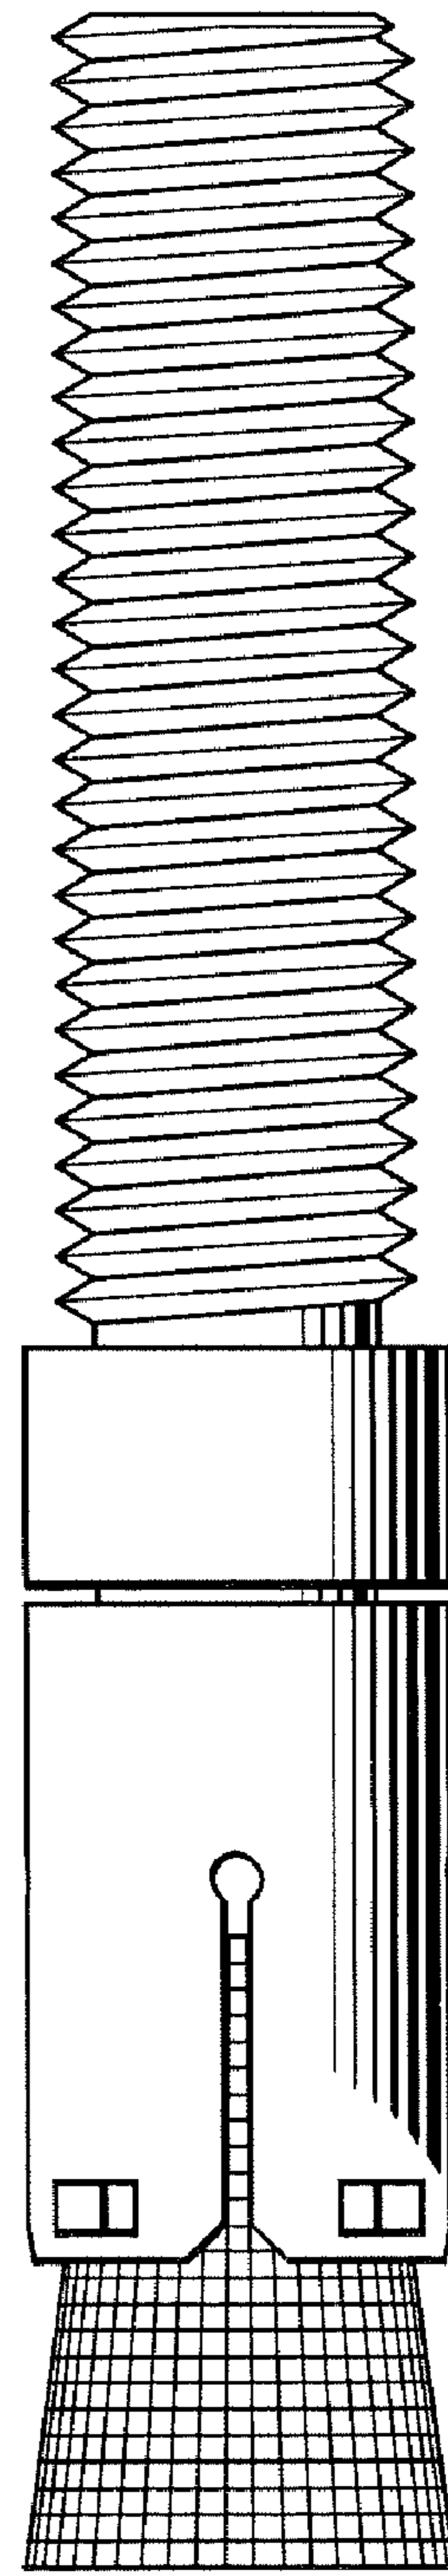

Fig. 8
- FIG. 8 is a side view of the stud having a cross knurled wedge;